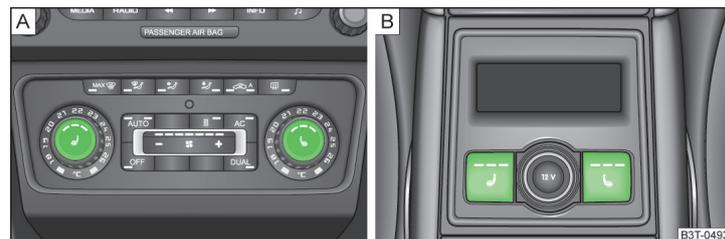

Fig. 72 Heating: Front seats/ rear seats
- Press the controller in the area of the symbols and » Fig. 72 - A
- Press the symbol button or » Fig. 72 - B.